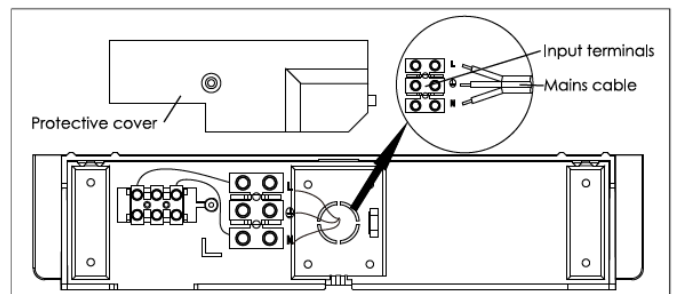

FIGURE 3
4. Run the cables through the cable hole of the mounting bracket. Strip, connect and terminate the cables as per Figure 3. Ensure that the insulation of the cables passes completely into the terminal block, safeguarding against exposed conductors.